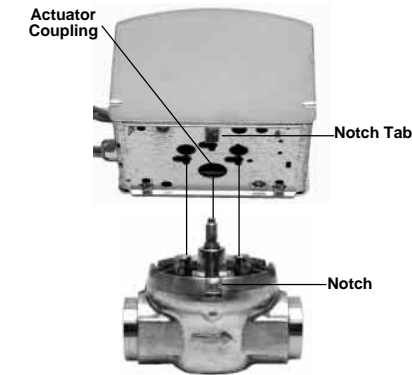

Fig. 5 - Installing Actuator
4. Line up motor coupling to the parallel flat surfaces in double-D shaft of body and fit the actuator onto the valve body, ensuring that the shaft seats correctly. (See Fig. 5)